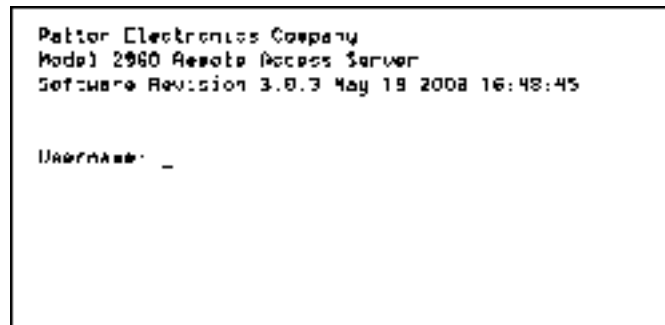

Figure 15. Login window
4. Press <RETURN> to display the login window, which will resemble that shown in figure 15.